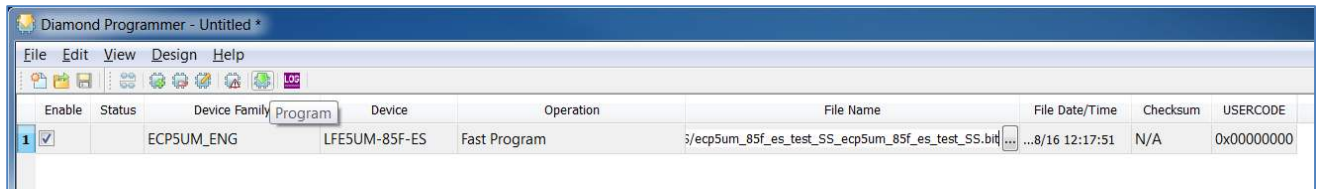

Figure 5.8. Program Icon
7. To start programming the device, click the **Program** icon  shown in Figure 5.8.